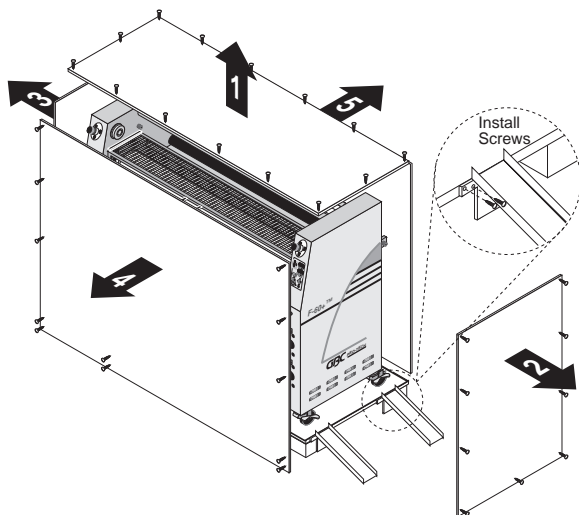

Figure 2-3: Removing the Crate
1. Remove the top of the crate and sides 2 and 3 as shown in Figure 2-3.
A second person must support the side labeled (5) in Figure 2-3. It can fall and damage the laminator.
10. The ramps included with the laminator can be secured to the edge of the crate bottom using the screws left over from the crate disassembly (see Figure 2-3).
Roll the machine off by securing included ramps to the edge of the crate bottom using the screws left over from the crate disassembly (See Figure 2-3).